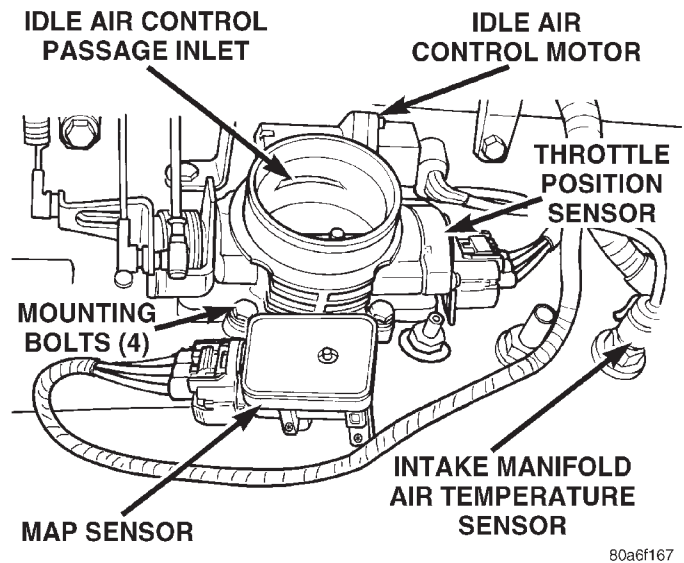
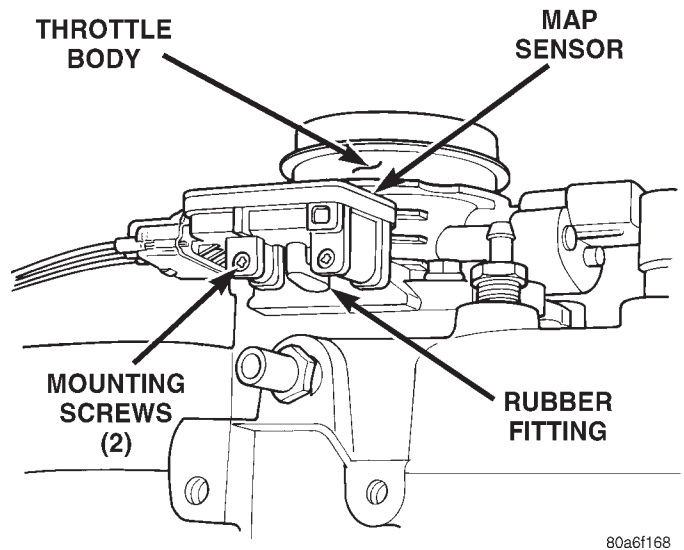

Fig. 39 Sensor Locations—4.0L Engine
Fig. 40 Rubber L-Shaped Fitting—MAP Sensor-to-Throttle Body
(8) Verify crankcase ventilation (CCV) operation. Refer to Group 25, Emission Control System for additional information.
(9) Inspect fuel tube quick-connect fitting-to-fuel rail connections.
(10) Verify that hose connections to all ports of vacuum fittings on intake manifold are tight and not leaking.
(11) Inspect accelerator cable, transmission throttle cable (if equipped) and cruise control cable connections (if equipped). Check their connections to the throttle arm of throttle body for any binding or restrictions.
(12) If equipped with vacuum brake booster, verify that vacuum booster hose is firmly connected to fitting on intake manifold. Also check connection to brake vacuum booster.
(13) Inspect the air cleaner inlet and air cleaner element for dirt or restrictions.
(14) Inspect radiator grille area, radiator fins and air conditioning condenser for restrictions.
(15) Verify that the intake manifold air temperature sensor wire connector is firmly connected to harness connector (Fig. 39).
(16) Verify that MAP sensor electrical connector is firmly connected to MAP sensor (Fig. 39). Also verify that rubber L-shaped fitting from MAP sensor to the throttle body is firmly connected (Fig. 40).
(18) Verify harness connectors are firmly connected to idle air control (IAC) motor and throttle position sensor (TPS) (Fig. 39).